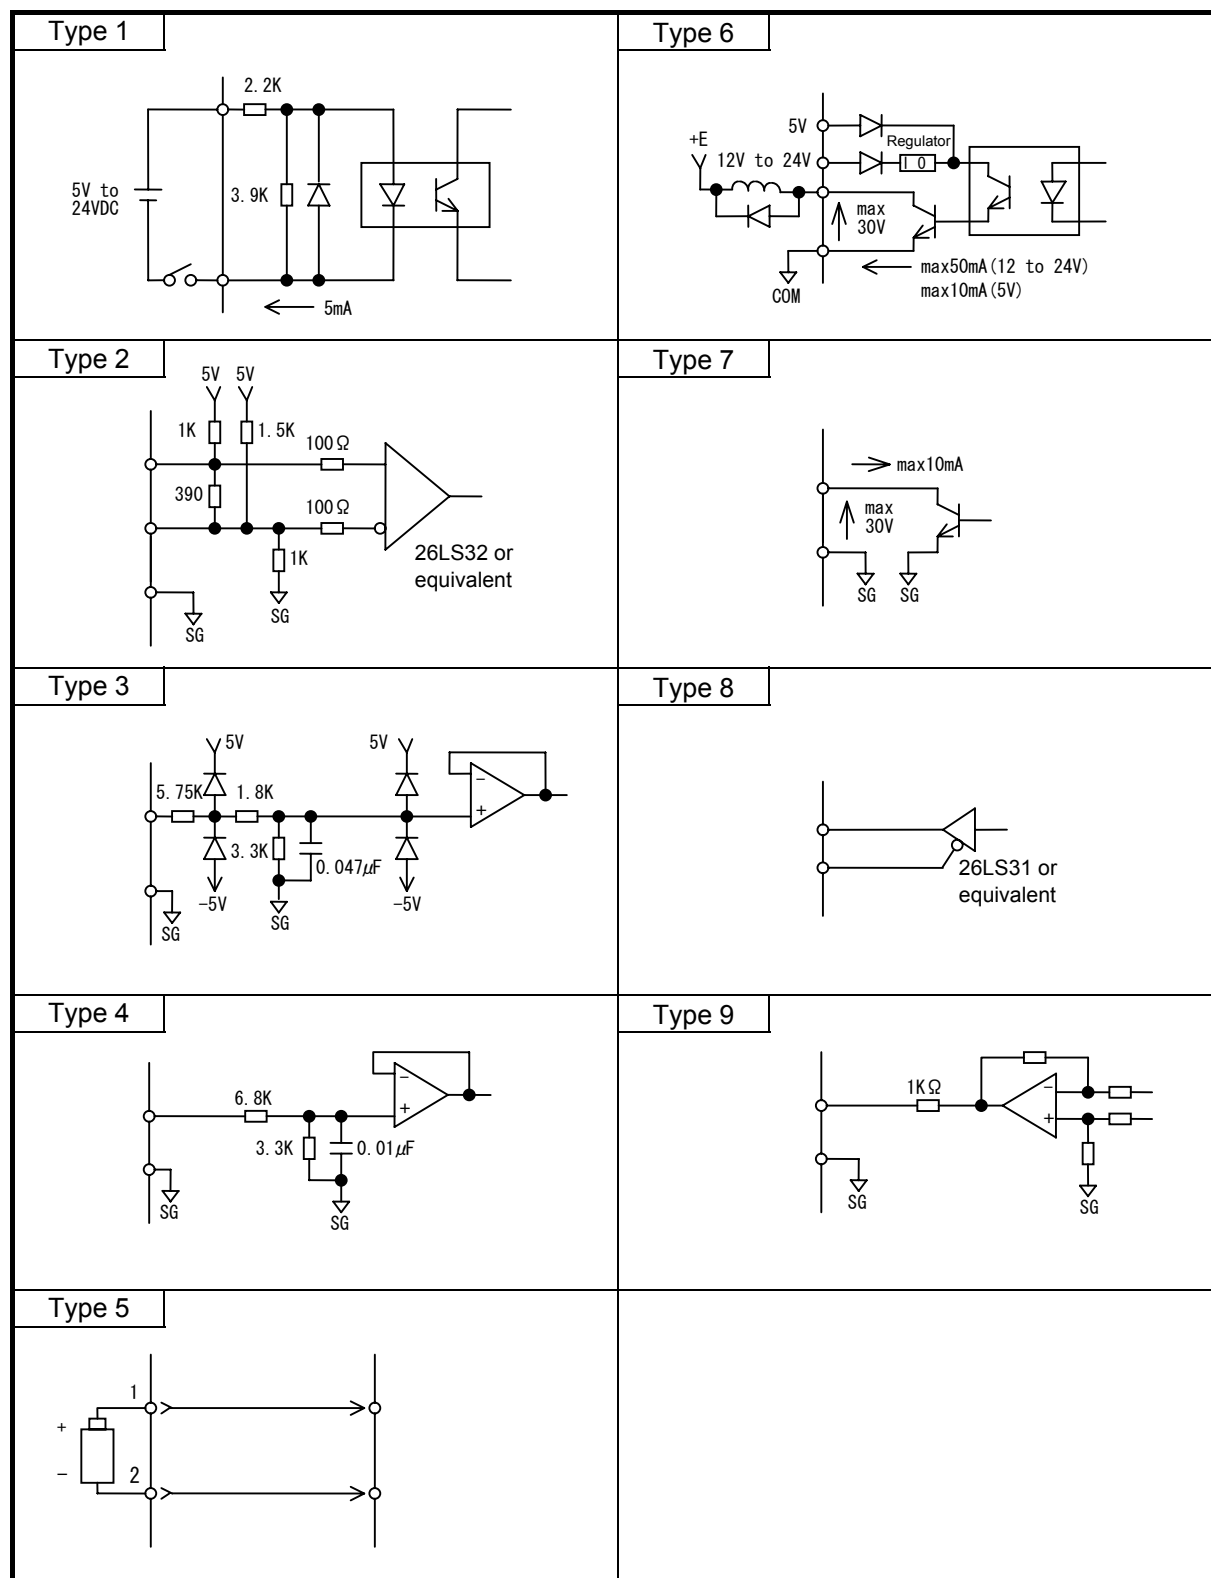

Fig. 9-20
This section explains the general specifications of CN1 input/output signals of the position control type. Fig. 9-20 shows the circuit types of CN1 input/output signals, and Tables 9-8 and 9-9 describe the general specifications.
*2 For the circuit type, see Fig. 9-20.